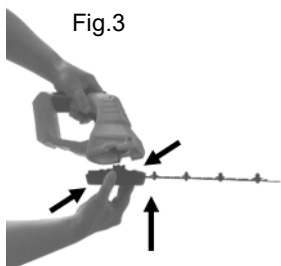

Fig.3
3. Push the blade release buttons on both sides again (Fig. 3) and press the blade into the mount at the same time. The drive unit on the equipment is now connected to the blade.